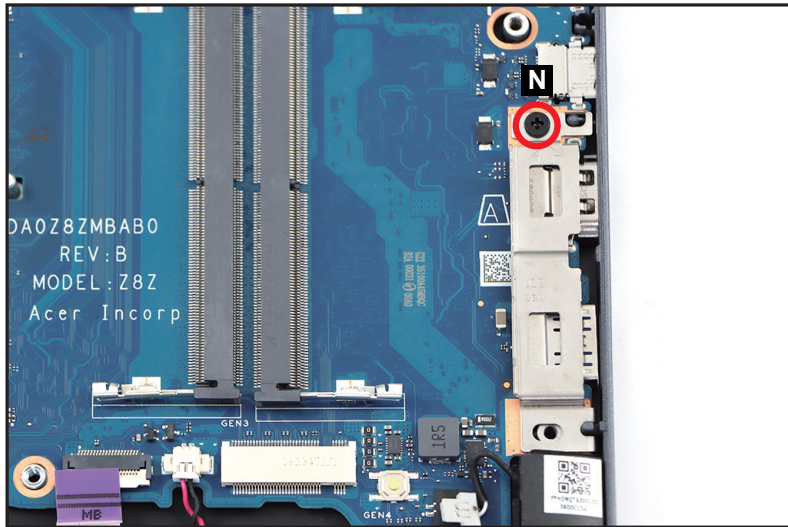

Figure 1-56. Mainboard Removal
13. Remove one (1) screw (K) securing the left I/O bracket (Figure 1-56).